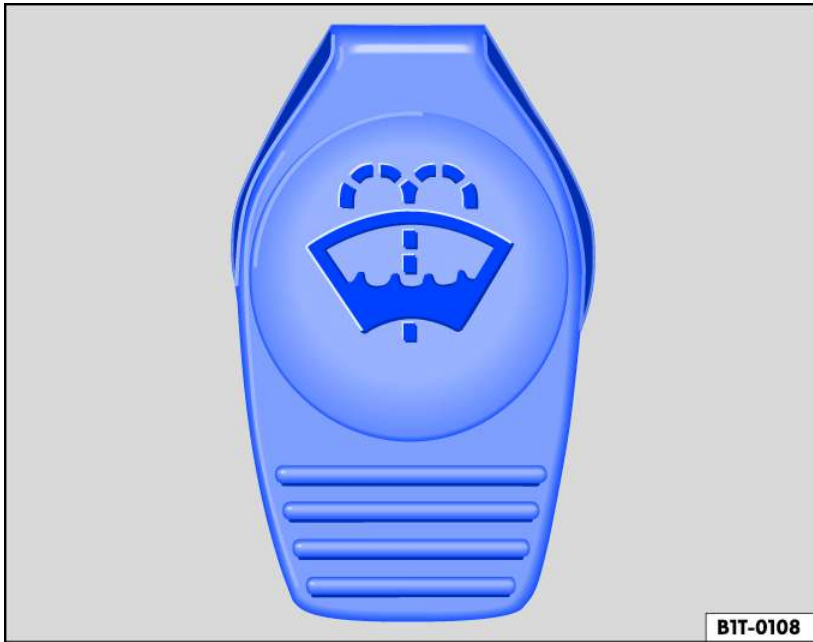

Fig. 139 In the engine compartment: cap on the washer fluid reservoir.
2. The washer fluid reservoir is identified with the  symbol on the cap *fig. 139*.